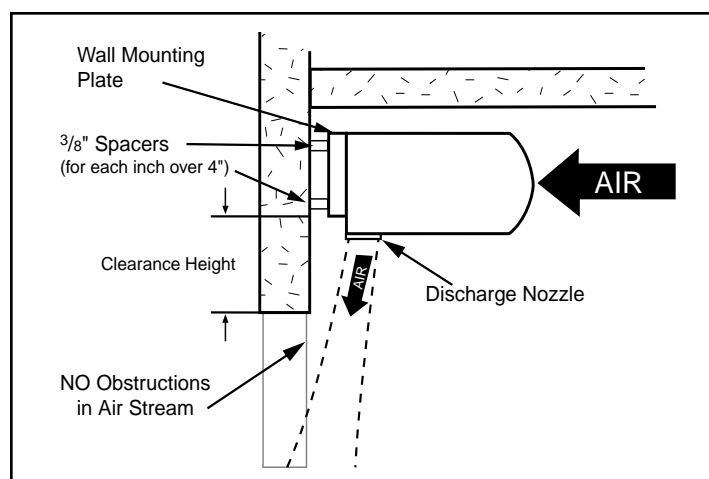

FIGURE 3 - High Wall Mounting
- B. For optimum performance, the bottom of the air door (discharge nozzle) should be no more than 1" above the top of the door opening with the air door(s) mounted flush to the wall. If the air door must be mounted higher, it must be **spaced out** from the wall $\frac{3}{8}$ " for every inch the air door is above the door opening. See Figure 3. For optimum protection, any void between the air door and the wall should be sealed along the full length of the air door.
See Figure 3. For optimum protection, do not exceed the recommended **maximum mounting height of 8'** above the finished floor. Any void between the mounting plate and the wall should be sealed along the full length of the mounting plate.